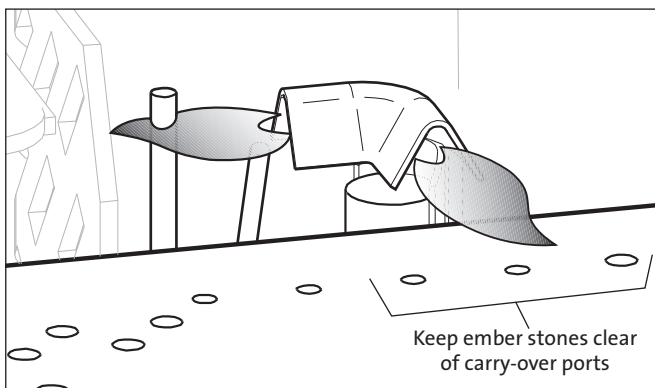

Figure 40. Proper pilot flame appearance relative to burner carry-over porting.
Figure 39. Place the Left Cross Log over the Rear Log and the Left Front Log, positioned as shown. Spread Ember Stones loosely over the burner plate. DO NOT OBSTRUCT THE PILOT CARRY-OVER PORTS. SEE FIG. 40.
2. **PILOT FLAME:** You can monitor the pilot flame located under the Rear Log. See fig. 40. The pilot flame should be steady - not lifting or floating. The flame should be blue in color around the pilot hood, with traces of yellow toward the outer edges.